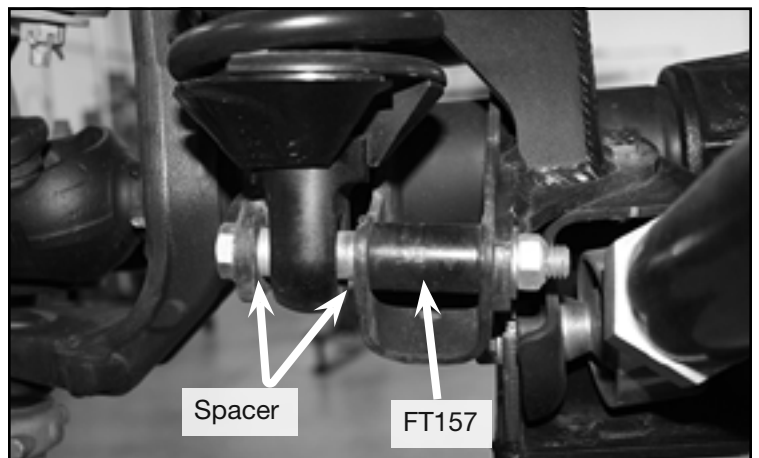

**FIGURE 40 - STEP 25**
25. Route the brake line hose and speed sensor cable together and mount them to the lower mount using the supplied rubber clamps and self tapping screws. **SEE FIGURE 40**